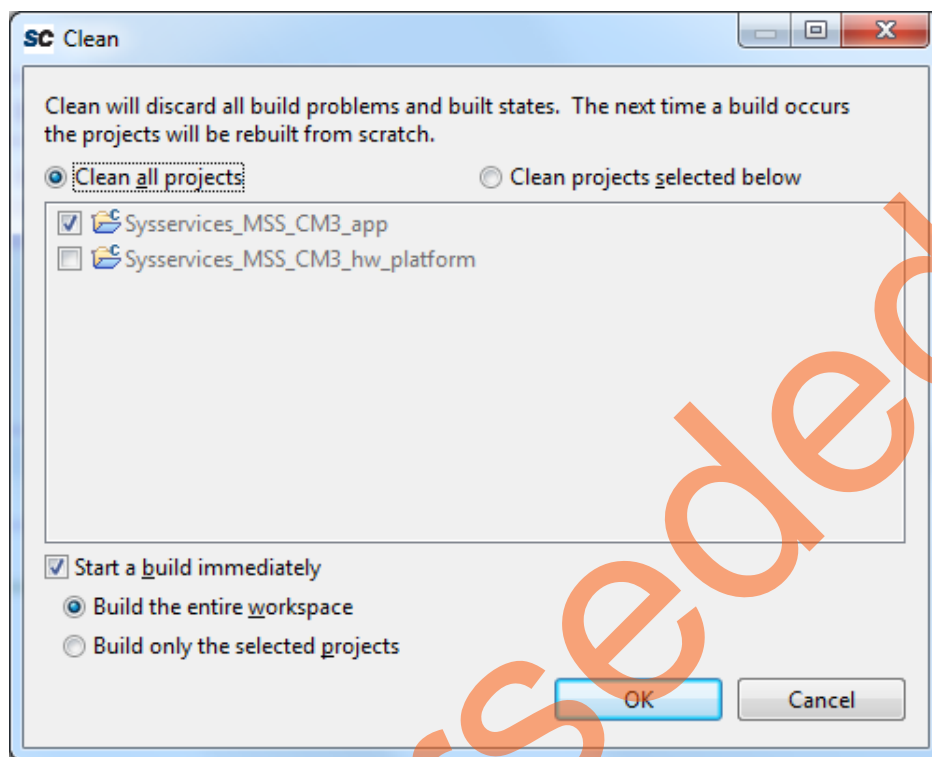

Figure 34 • Settings for a Clean Build
5. Perform a clean build by selecting **Project > Clean**. Accept the default settings in the **Clean** dialog box and click **OK**, as shown in Figure 34. SoftConsole project must not have any errors.